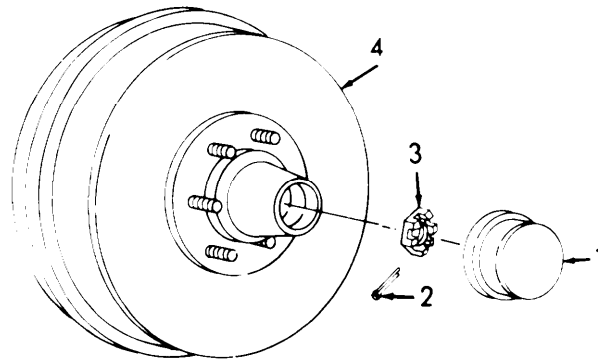

Figure 3-35. Front Wheel Bearing Adjustment.
- (1) Remove grease cap (1, Figure 3-35).
- (2) Remove cotter pin (2).
- (3) Loosen nut (3) several turns.
- (4) Slowly tighten nut (3) while turning drum (4).
- (5) Stop tightening nut (3) when drum (4) no longer turns freely.
- (6) Loosen nut (3) 1/4 turn.
- (7) Install cotter pin (2) and grease cap (1).